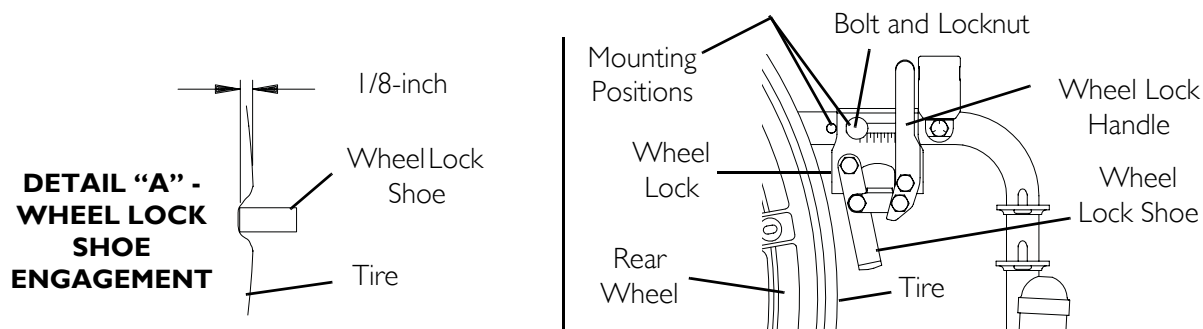

FIGURE 8.1 Adjusting Wheel Locks
NOTE: For this procedure, refer to FIGURE 8.1.
6. Measure the distance the wheel lock is embedded into the tire as shown in detail "A" of FIGURE 8.1.